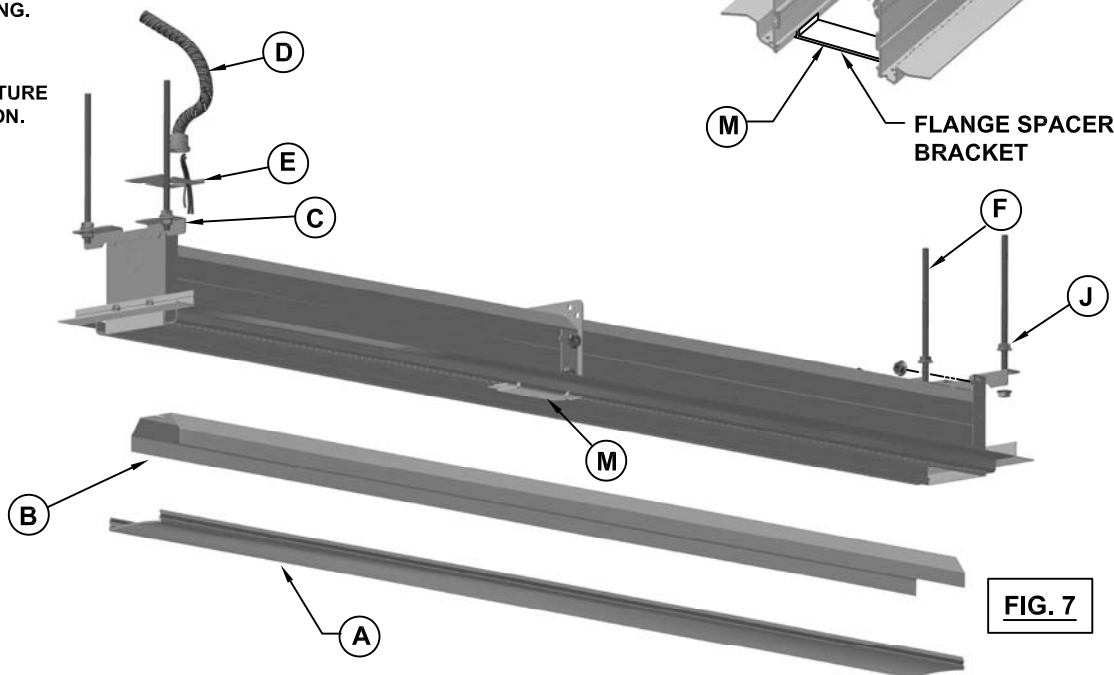

FIG. 7
REMOVE ACCESS PLATE (E) AND PULL FIXTURE LEADS OUT THROUGH OPENING. REMOVE KNOCK-OUT FROM ACCESS PLATE AND INSTALL FLEXIBLE CONDUIT FEED (D) TO ACCESS PLATE. ATTACH GROUND WIRE TO STUD ON INSIDE OF ACCESS PLATE AND MAKE OTHER WIRE CONNECTIONS MAINTAINING COLOR CODING OF WIRES. PUSH EXCESS WIRE INTO FIXTURE HOUSING AND SECURE ACCESS PLATE TO HOUSING INSURING THAT WIRES ARE NOT PINCHED BETWEEN FIXTURE AND ACCESS PLATE. (REF. FIG.7)